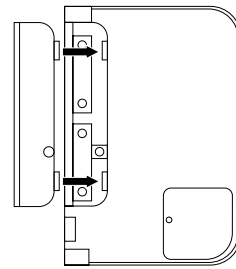

Figure 3
5. Insert the tabs on the bottom of the battery compartment cover into the slots of the battery compartment and carefully close the cover. Secure the cover in place with the screw. (Figure 3)